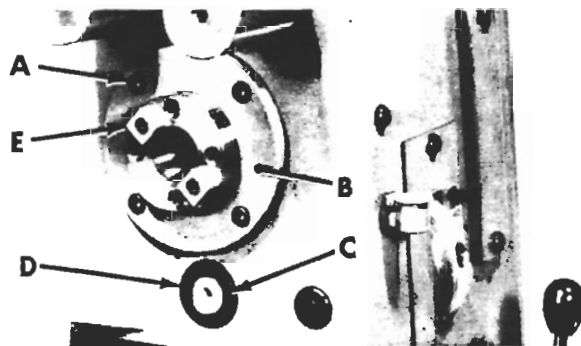

Figure 22
15. Loosen set screw (C, fig. 22), remove back gear nut (D).
16. Remove screws (A) and ring (B) from spindle nose.
17. Remove spindle keys (E) from spindle.